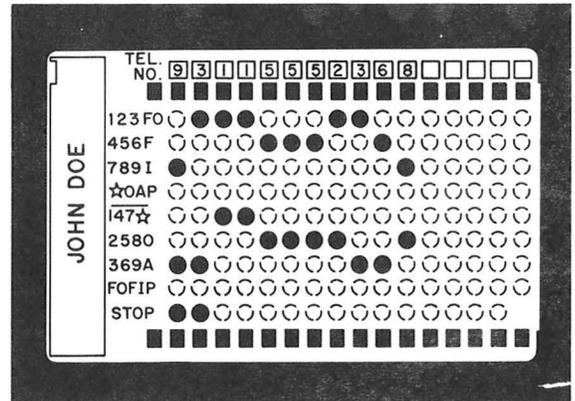

Fig. 10 — Card Coded For Access Code (9), STOP, Area Code (311), and 7-Digit Telephone Number
- Repeat in second column for second digit and so forth for remaining digits. All digits, including zero (0), must be punched out in both groups of characters.
- Write name and telephone number (with exchange letters converted to numbers) on card in space provided (Fig. 10).